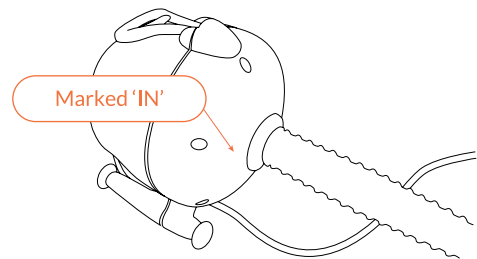

Fig 31 – Deflate (marked IN on pump)
5. Before plugging in the OV10 pump, ensure that the pump is in deflate mode. The pump is clearly marked IN where the inflation hose must be attached for deflation (Fig 31). For full instructions see the Bravo OV10 pump user manual.